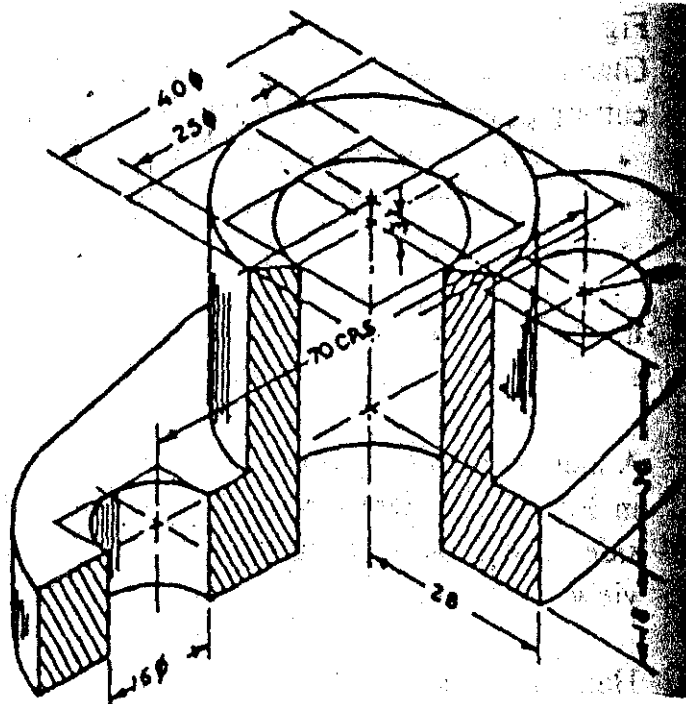

Fig: 2
- Give the part list for each of the muff couplings. (20)
- III. (a) A small shaping machine is to be installed on cement concrete foundation. Make neat sketches showing three alternate types of foundation bolts which could be used. One should be of a type, which will allow the machine to be moved to a new site, without the need for new bolts. (15)
- (b) Draw neat sketches in good proportions to indicate clearly at least three different ways in which hexagonal nuts may be securely locked. (15)
- IV. (a) Make neat sketches to show: (7)
- (b) Sketch, approximately to scale and in good proportions, a sectional view showing a 12mm dia, stud 72mm long, screwed 24mm into an iron casting. What suitable material is used for the stud. (8)
- (c) A half sectional pictorial view of a Gland is shown in figure 2. Draw its half sectional front view, side view looking from the left hand side and top view. (15)